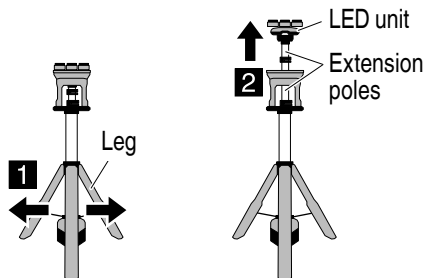

Fig. 9
- Be sure to open the legs before extending the pole. (Fig. 9)